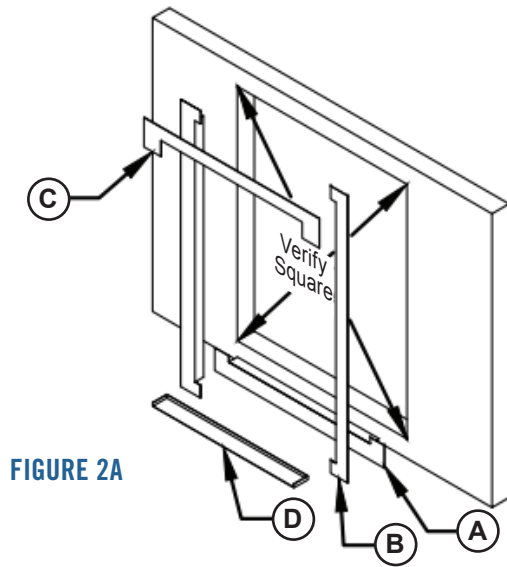

FIGURE 2A
5. Prepare rough opening by checking diagonal dimension of opening to verify square and apply water resistant barrier as shown in figure 2a. Use steps A through C for applying water resistant barrier. Use step D for installation of sill pan.